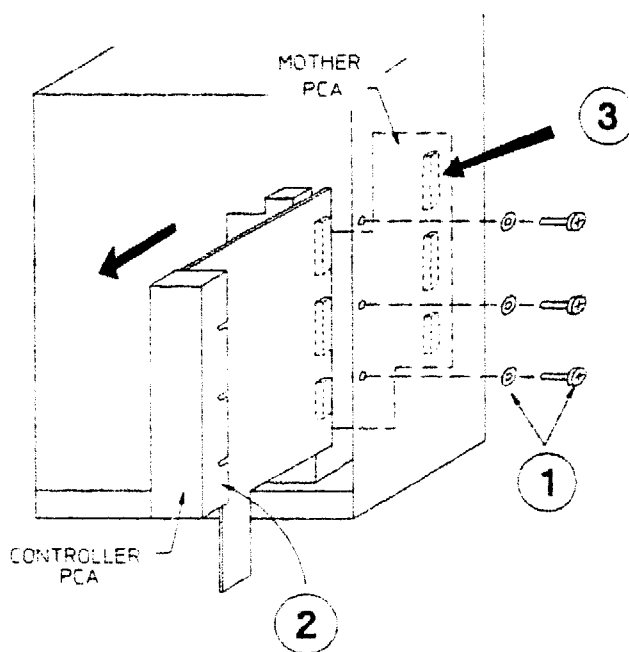

Figure 8-12. Removing the Autochanger Controller PCA
Refer to Figure 8-12.
When the AC Controller PCA is re-inserted into the chassis, be sure that the PCA edge connectors couple with all three receptacles on the Mother PCA (Figure 8-12 (3)).